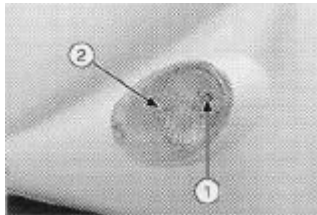

Fig. 26
### B) FRONT INDICATORS (FIG. 26)
1. Remove the screws (1 -FIG. 26).
2. Remove the glass shield (2 -FIG. 26) taking care not to snap the catch.